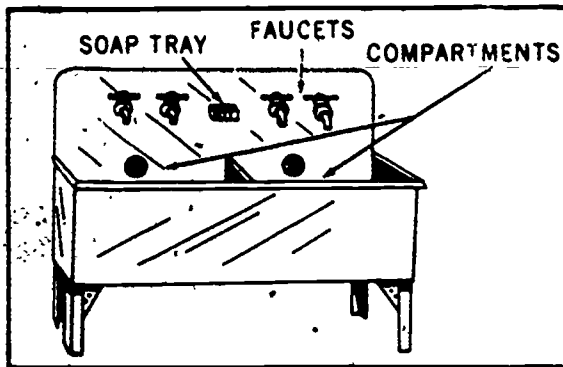
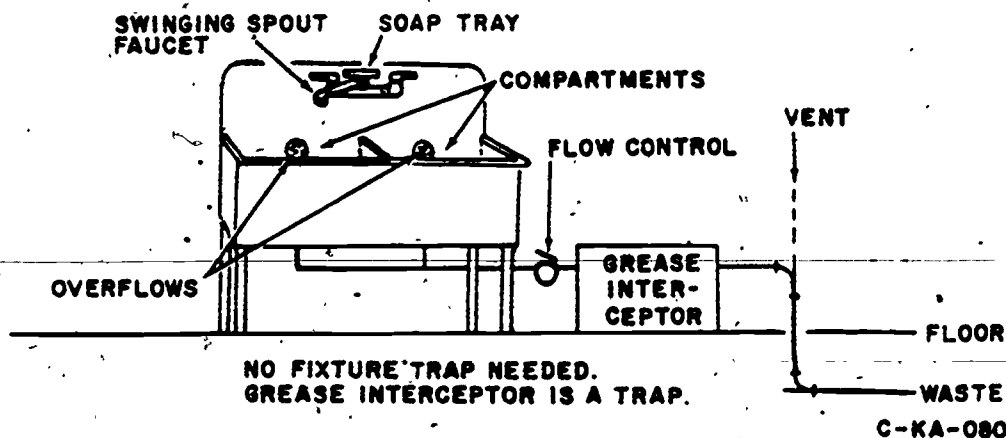

Figure 5-22. Scullery sink.
Figure 5-23 Scullery sink installation.
**Scullery Sinks.** Scullery sinks (see fig. 5-22) are large deep vessels that are used to wash vegetables and pots and pans. They are usually constructed of galvanized sheet iron or stainless steel. These sinks are manufactured in one, two, and three compartment types. Since these sinks are used to wash greasy pots and pans, the waste must drain through a grease trap (see fig. 5-23). A scullery sink does not need a fixture trap, the grease interceptor acts as a trap for the fixture.